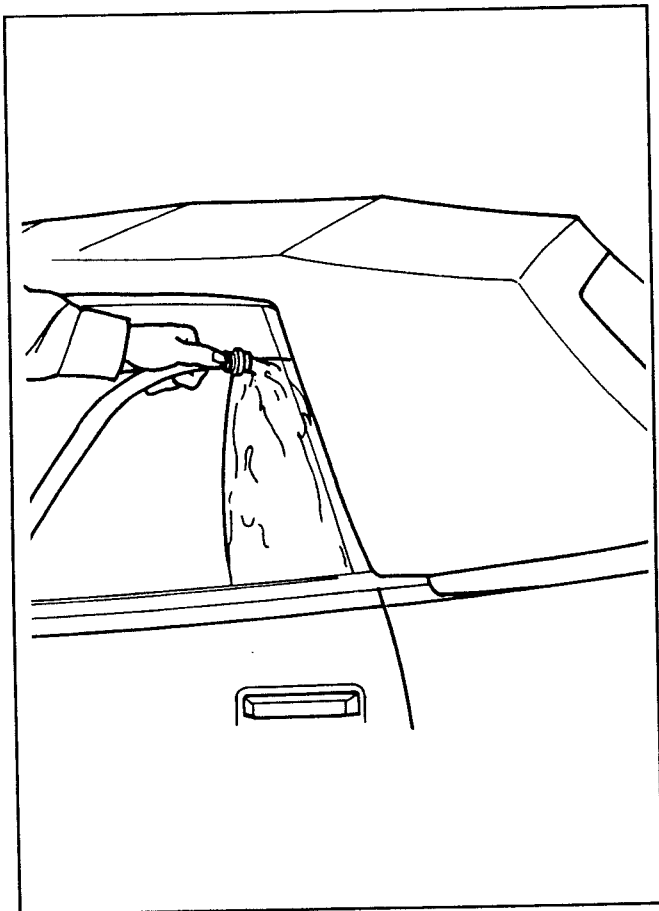

Figure 28. Leak Testing B-Pillar Weatherstrip
2. Slowly work up along the suspected area to find the waterleak (Fig. 28).